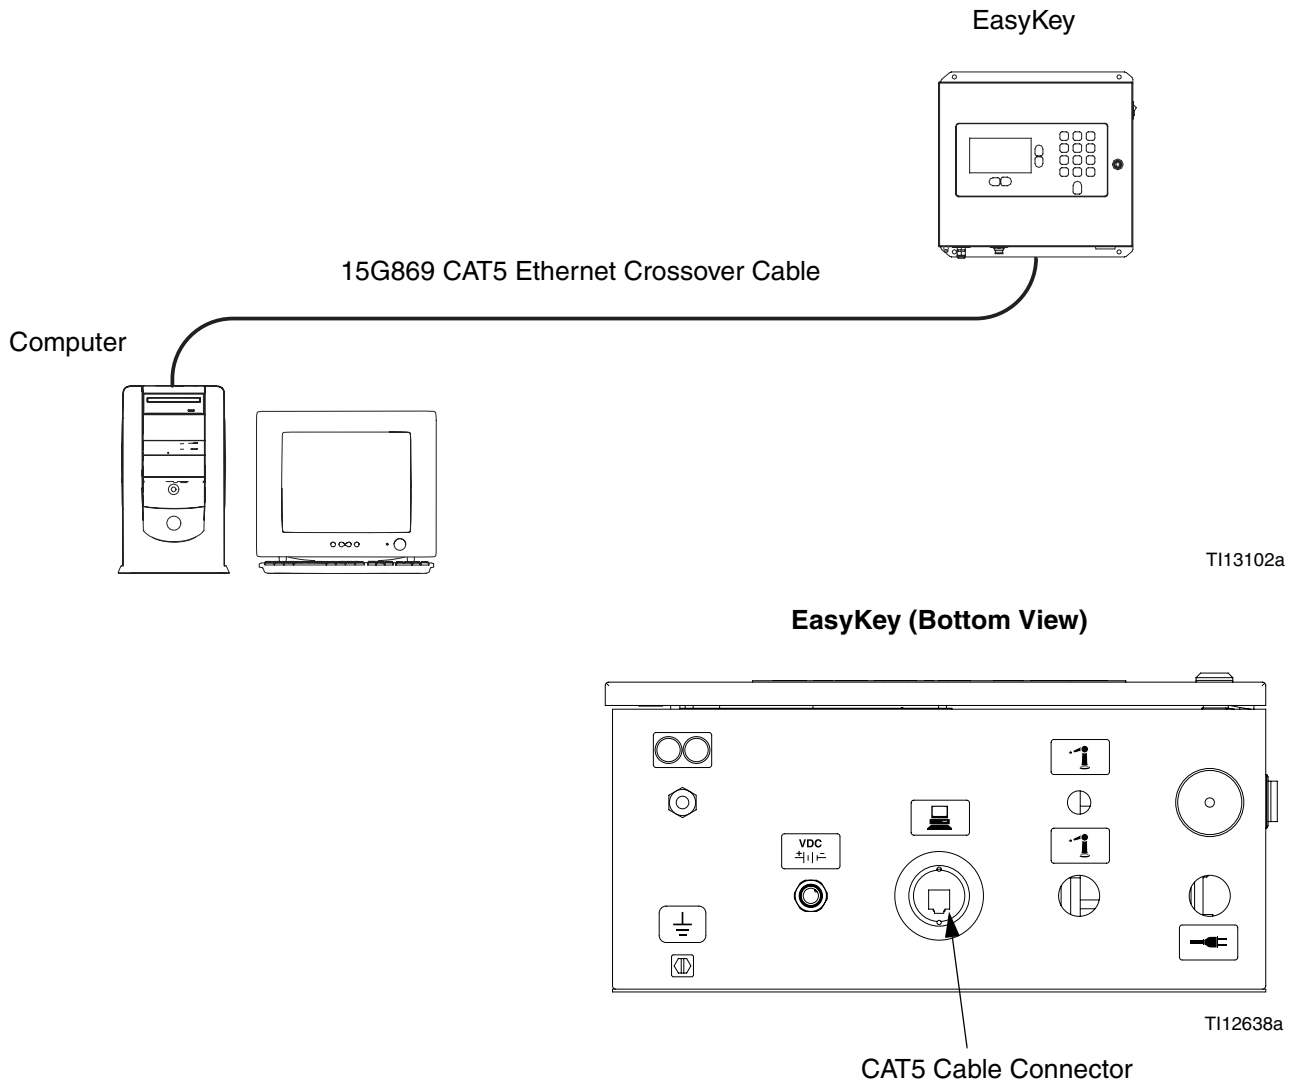

FIG. 1. ProMix 2KS/3KS Basic Web Interface Connection
2. After verifying that Java is loaded on the computer, connect the computer directly to the EasyKey, using the 15G869 CAT5 ethernet crossover cable supplied with the EasyKey. See FIG. 1.